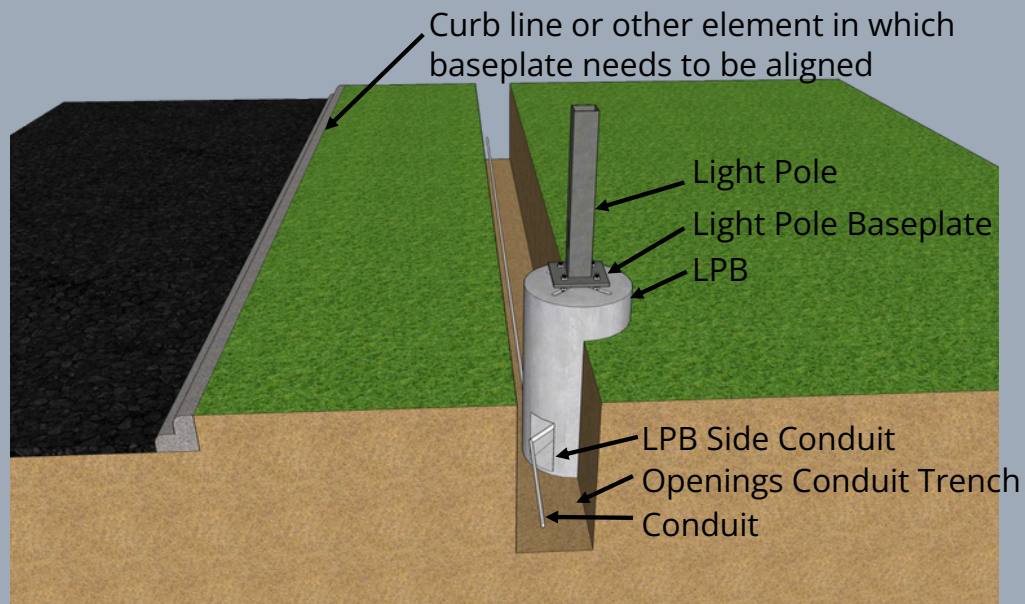

Figure 2: LPB Installation Orientation
- Ensure that the conduit openings are aligned properly for the site and installation requirements. Refer to Figures 2 and 3 on page 8 for additional information on final LPB orientation.